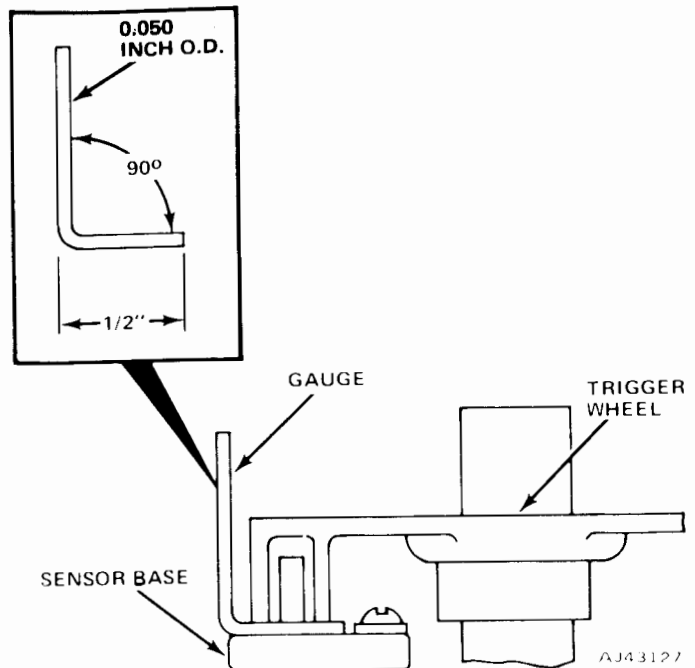

Fig. 3-61 Measuring Distance Between Trigger Wheel and Sensor Base
(12) Remove gauge and set trigger wheel in place on yoke. Visually check to make certain the sensor core is positioned approximately in the center of trigger wheel legs and that trigger wheel legs cannot touch sensor core.
(13) Support distributor shaft and press trigger wheel onto yoke. Using 0.050 gauge wire, bend wire gauge to the dimension shown in figure 3-61. Use gauge to measure the distance between trigger wheel legs and the sensor base (fig. 3-61). Install trigger wheel until it just touches the gauge.
(14) Add about 3 to 5 drops of SAE 20 oil to the felt wick in the top of the yoke.
(15) Install dust shield and rotor. Distributor is ready for installation. Install the distributor and time the engine to specification.